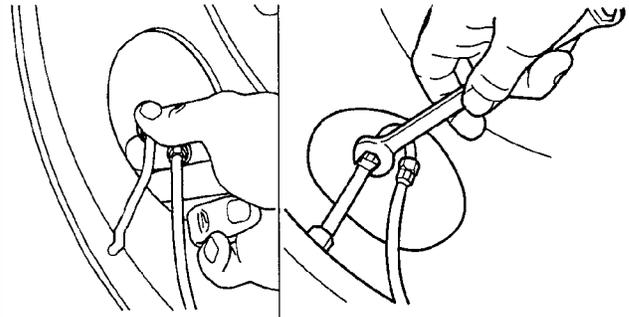

Figure 7: Attaching tire hoses to wheel valve stem
4. Tighten the tire hose/valve stem connection **finger tight** (Figure 7).
5. Using a 7/16" wrench, tighten the tire hose/valve stem connection an additional one-half turn (Figure 7). **DO NOT** overtighten this connection.